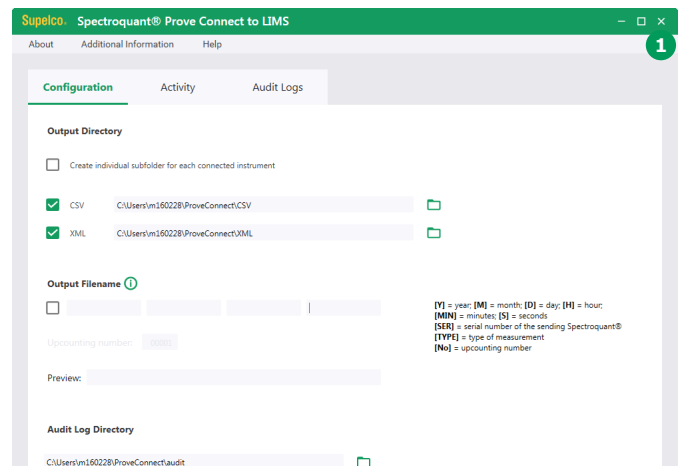

Figure 45 - Prove Connect's configuration tab
The Prove Connect Main window (Figure 45) allows you:
You can open the Prove Connect Main Window in the context menu of the Prove Connect system tray icon, when you click on “Show Window”. You can minimize, maximize and close the main window as usual by clicking the icons ① (Figure 45) in the title bar.